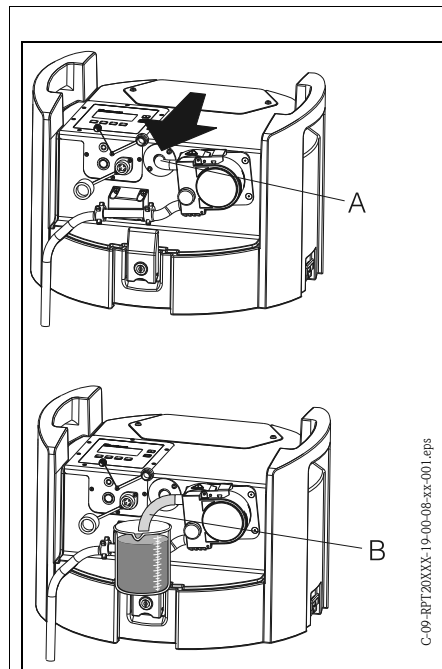

Fig. 18: Calibrating sample volume
3. Remove the already installed pump hose from the hose feeder ( => Fig. 18, pos. A) and feed it into the measurement beaker ( => Fig. 18, pos. B).
13. Replace the pump hose into the hose feeder until it hits the end stop ( => Fig. 18, pos. A).